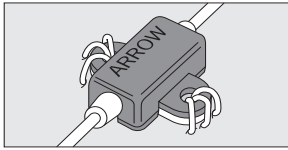

Figure 9
- Secure catheter clamp and fastener as a unit to patient by using either catheter stabilization device, stapling or suturing. Both catheter clamp and fastener need to be secured to reduce risk of catheter migration (refer to Figure 9).